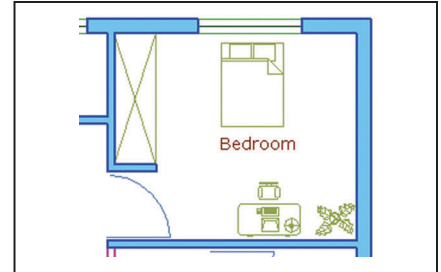

Figure 10
- Make the wall layer current. Fill in the wall areas with light blue hatch. Select hatches. Select Display Order > Send to back from Tools menu to adjust the order of objects [Figure 10].